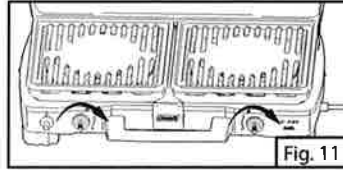
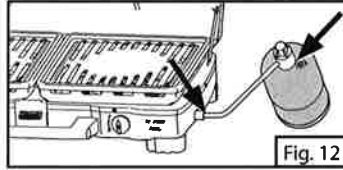

Fig. 11
Fig. 12
1. Check to make sure that the control knobs are in closed position (O). (Fig. 11) Apply a gas leak detection liquid such as soapy water to the connections with the arrows in Fig. 12.